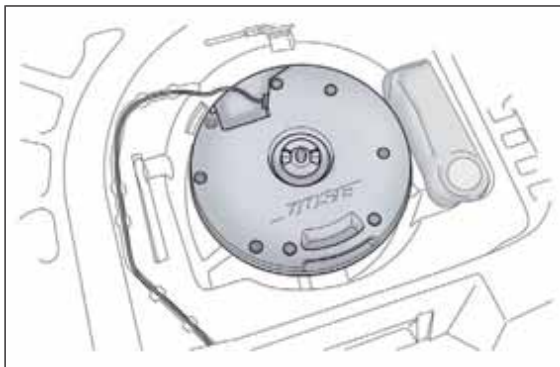

fig. 124
- take the "Fix&Go Automatic Kit" located on the left side of the luggage compartment (fig. 124);